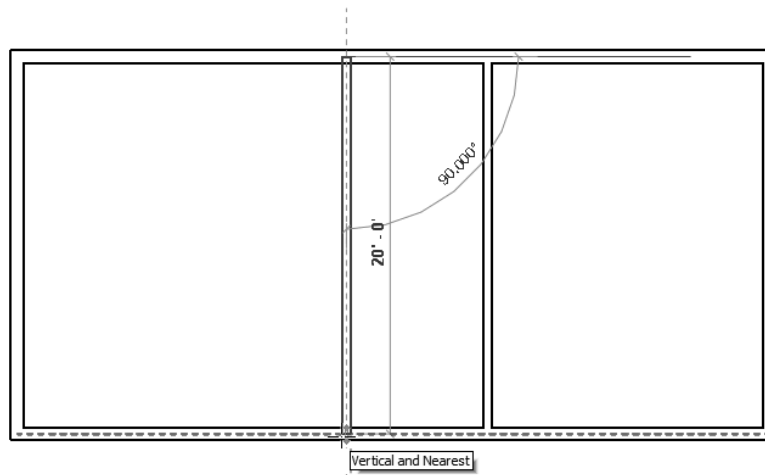

Figure 3-55 Sketching the second interior wall
- Press SHIFT and move the cursor downward. You will notice that the cursor moves parallel to the vertical axis while moving it downward. Click near the lower external wall when the **Vertical and Nearest** symbol appears, as shown in Figure 3-55.